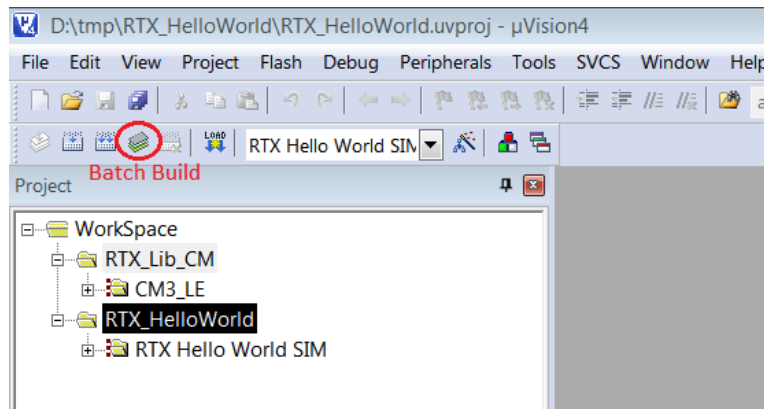
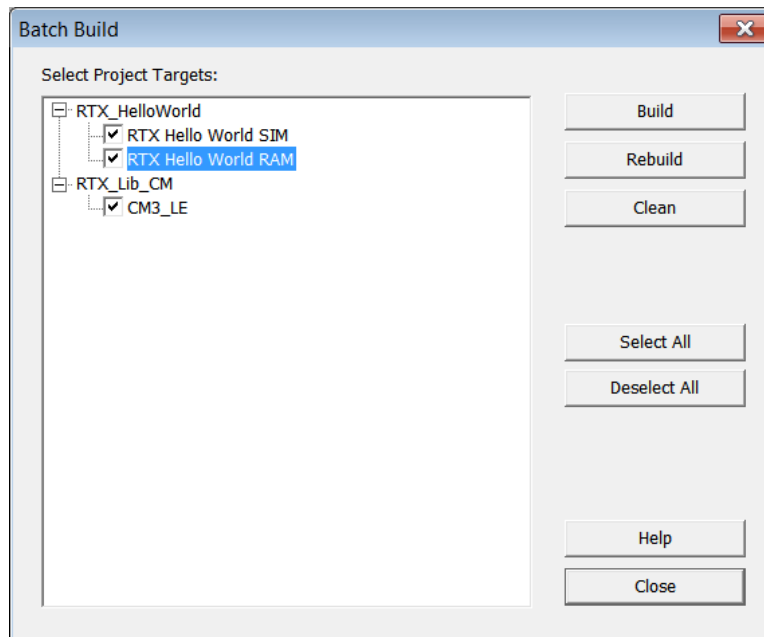

Figure 2.23: Keil IDE: Workspace with Two Projects
Figure 2.24: Keil IDE: Batch Build
4. Two projects appear under the Project Window (see Figure 2.23). Click the Batch Build button (see Figure 2.23 to bring up the Batch Build window. Select all the targets you want to build in a batch (see Figure 2.24). By setting up batch build, multiple targets can be built by a single click of the Build button inside the batch build dialogue box ².